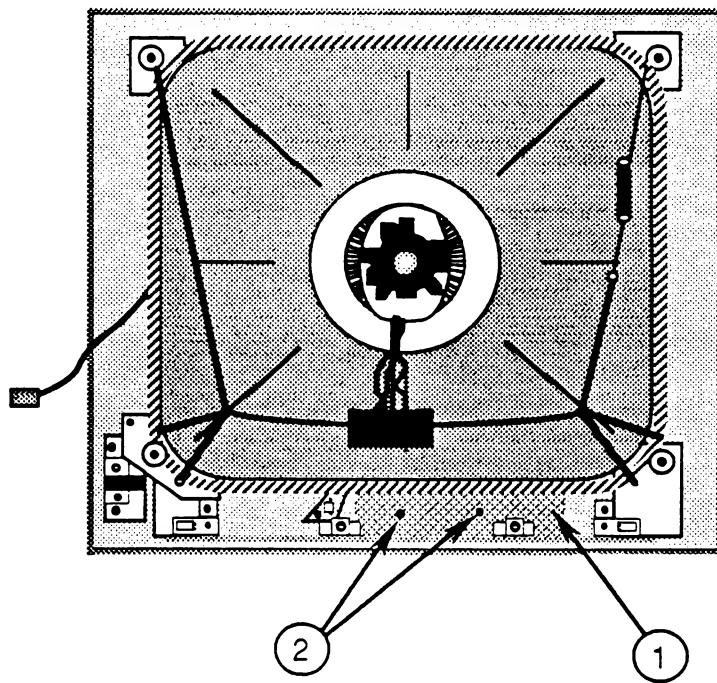

FIGURE 34
6. Locate the control PCB (Figure 34, #1).
7. Remove the two mounting screws (Figure 34, #2).
4. Replace the two mounting screws (Figure 34, #2).